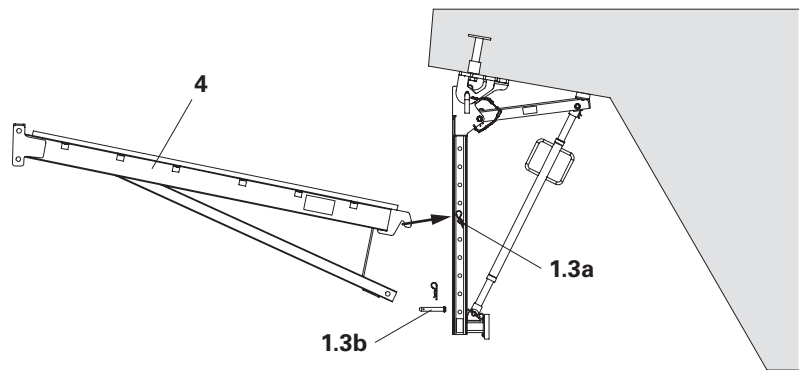

Fig. B2.01
4. Secure with lower bolt $\text{Ø } 16 \times 90$ (**1.3b**). (Fig. B2.01)